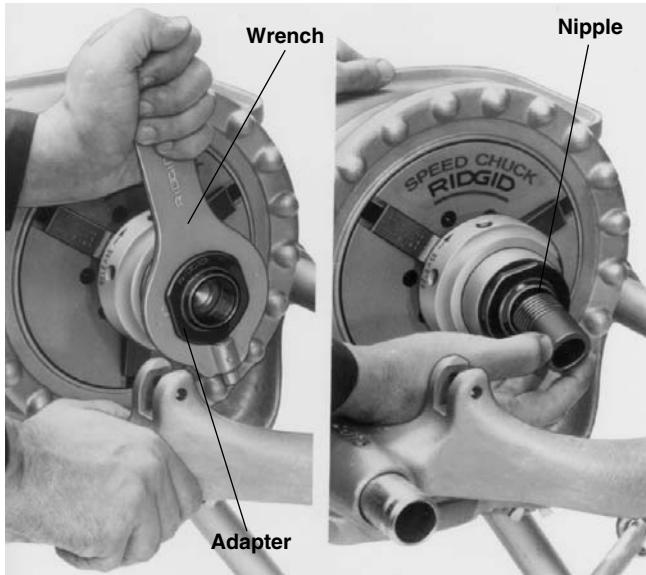

Figure 24 – Installing Nipple Chuck Adapter and Nipple
5. Select proper size nipple chuck adapter and screw into nipple chuck (*Figure 24*) by hand. Tighten with wrench provided with nipple chuck.
- Screw nipple (*Figure 24*) threaded on one end into adapter by hand. Turn directional switch to ON and press down on foot switch. Ream and thread other end.